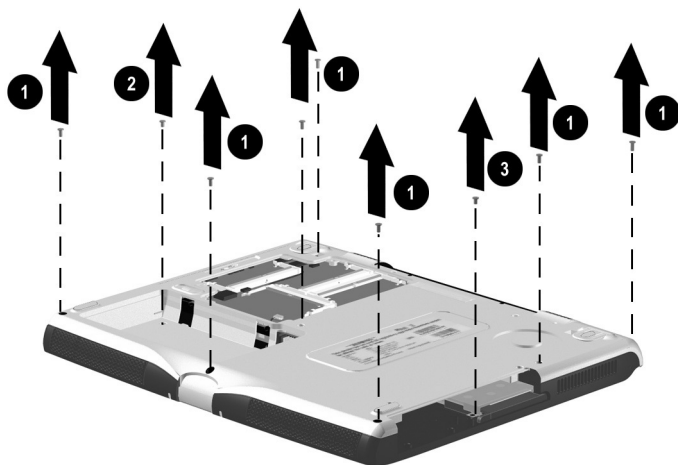

Figure 5-23. Removing the Top Cover Screws
- ❑ Seven PM2.0 × 8.0 screws ❶ securing the top cover to the base enclosure (Figure 5-23)
- ❑ One PM2.0 × 5.5 screw ❷ securing the top cover to the base enclosure in the battery bay
- ❑ One PM2.0 × 5.5 screw ❸ that secures the top cover to the base enclosure in the optical drive/hard drive bay